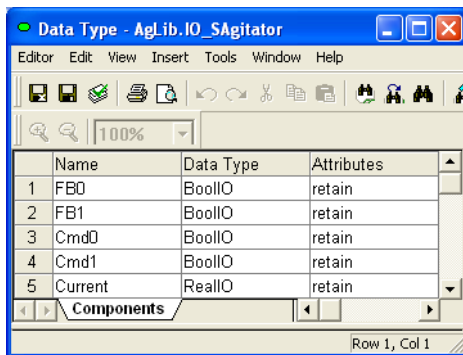

Figure 24. Structured Data Type IO_SAgitator
6. In the Data Type editor dialog, enter the components as shown in Figure 24.